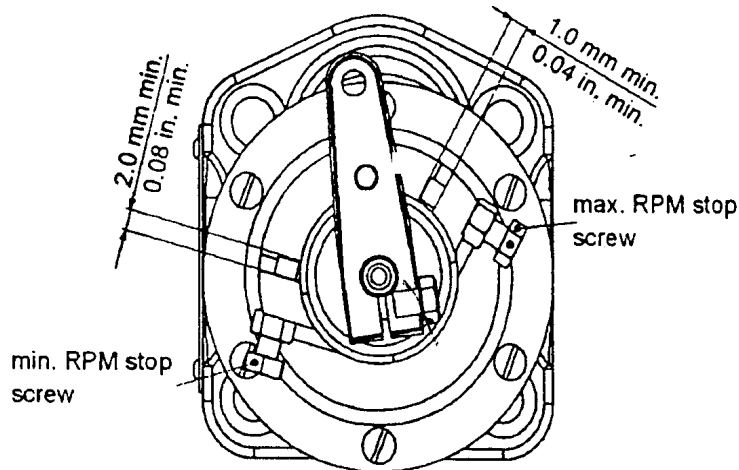

Fig. 5a
b) New style housing: see Fig. 5a and 5b